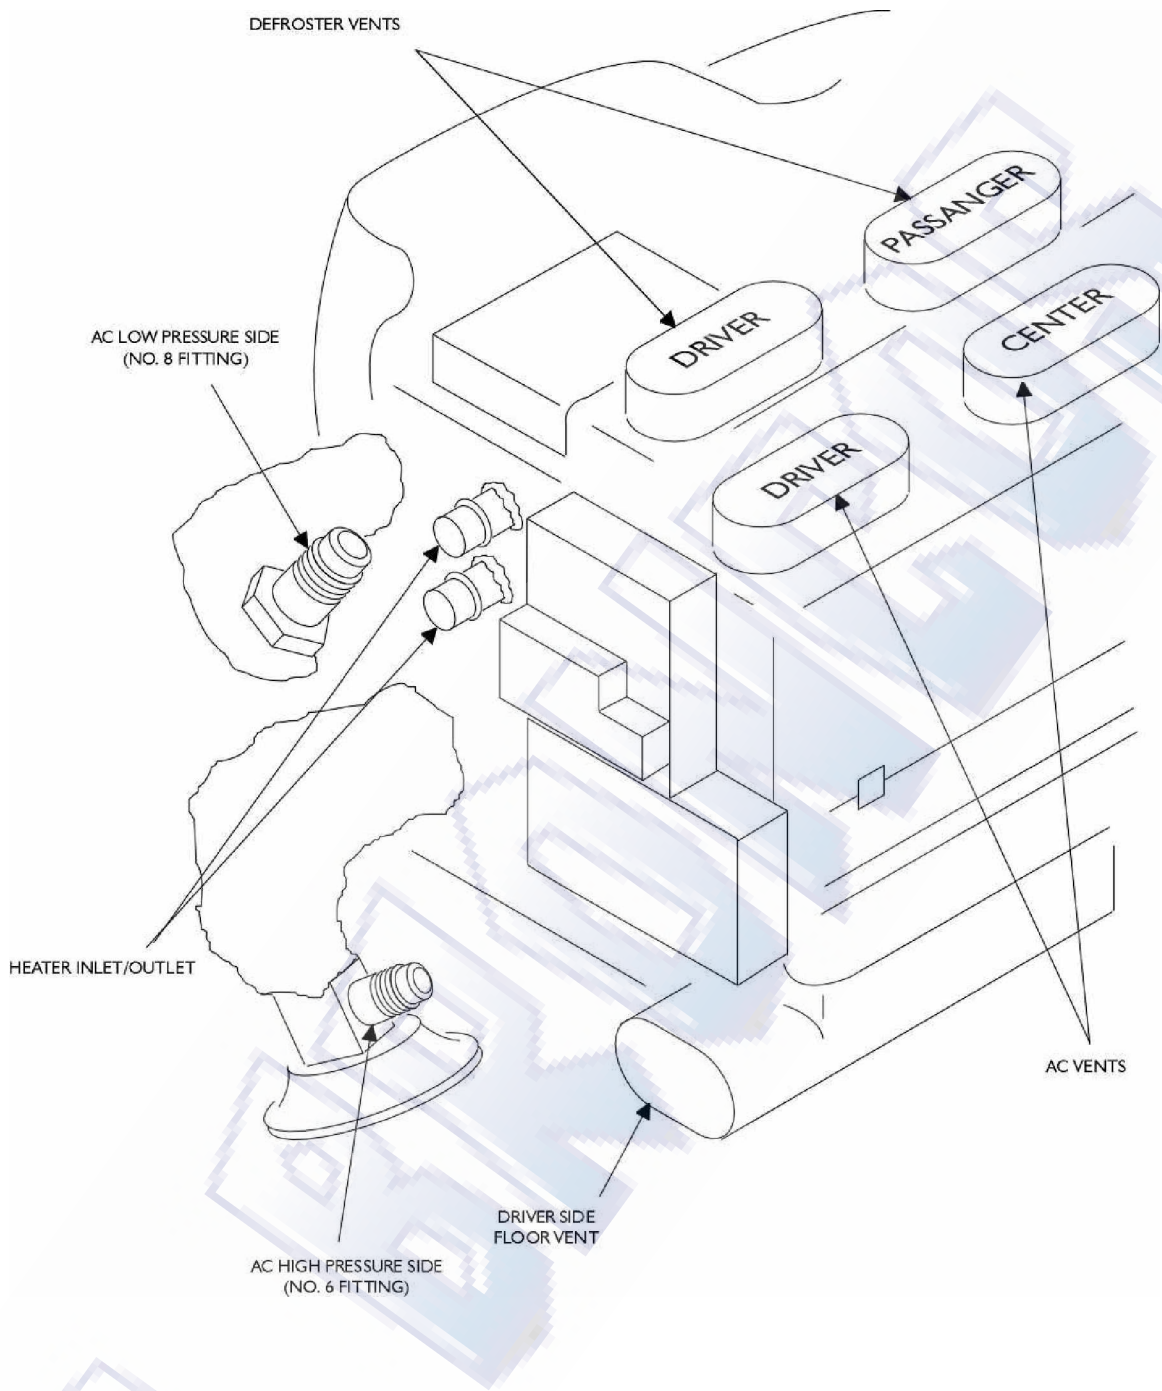
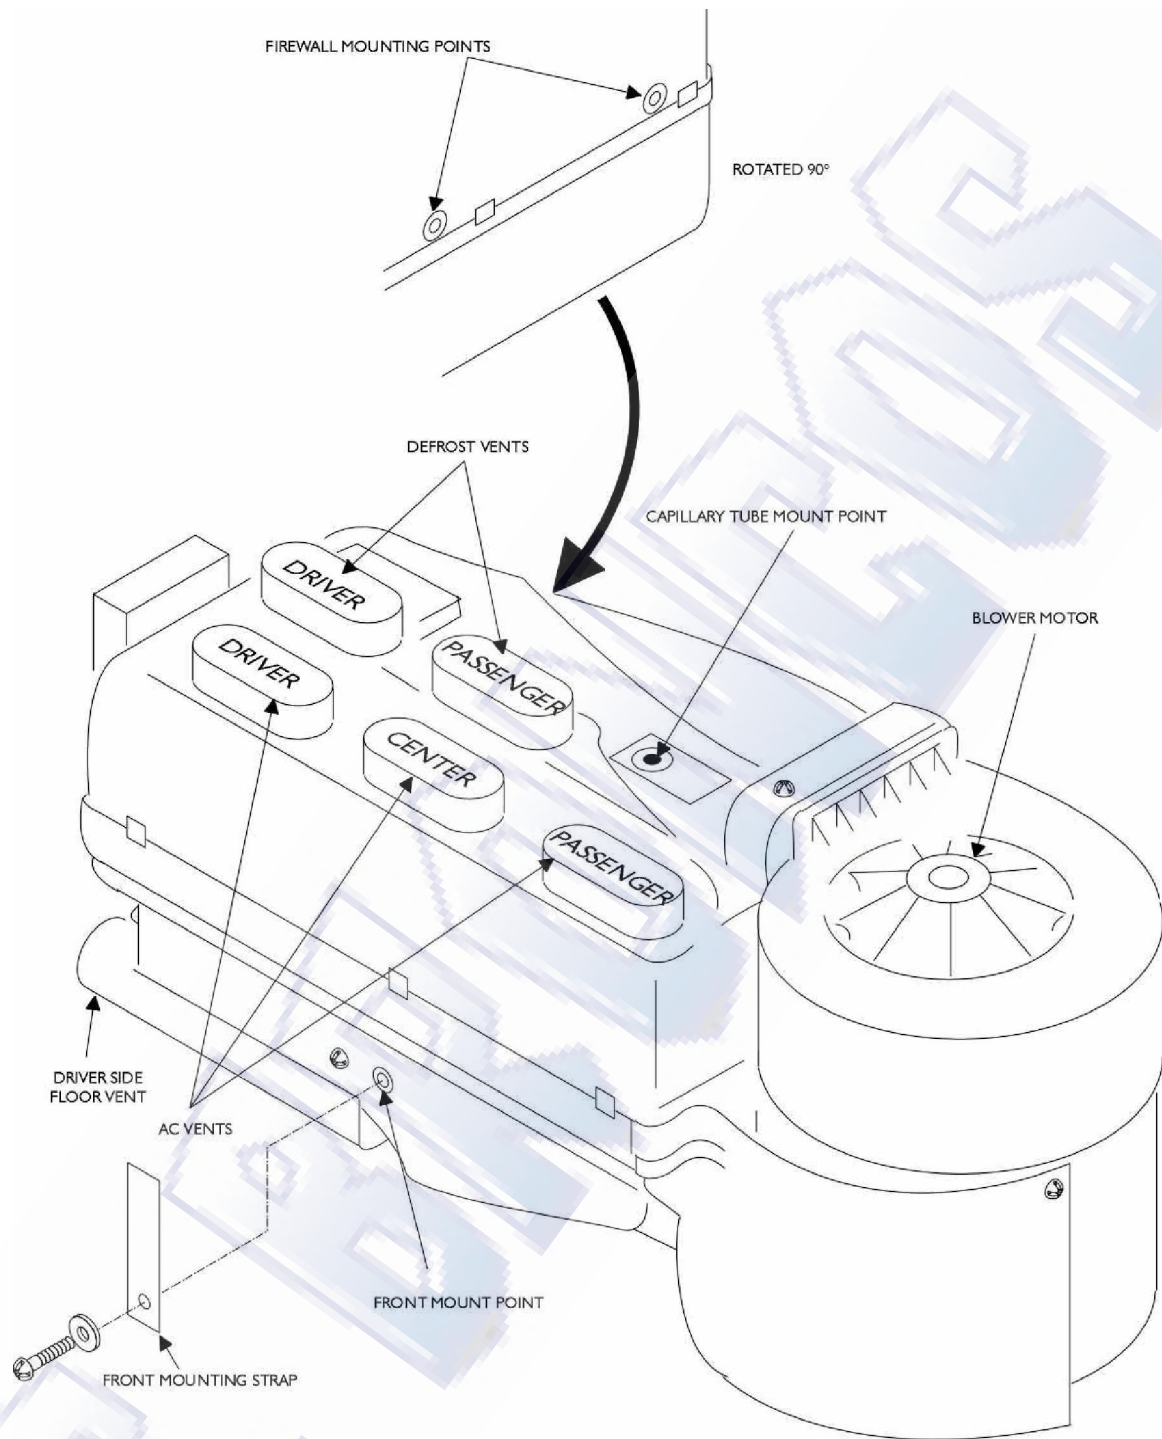

Figure 3. AC unit.
Figure 4. AC unit.
33. Connect the flex ducting to the two rear de-frost outlets on the ac unit and secure it with a supplied zip tie. Reference Figure 3 and Figure 4.
34. Connect the flex ducting to the three front ac outlets and secure it with a supplied zip tie. Reference Figure 3 and Figure 4.
35. Carefully insert the end of the capillary tube into the ac unit at the point noted by the "bull's eye" sticker approximately 4". See Figure 4.
- 40. Using the provided strap, secure the front of the ac unit to the dash board. See Figure 4.